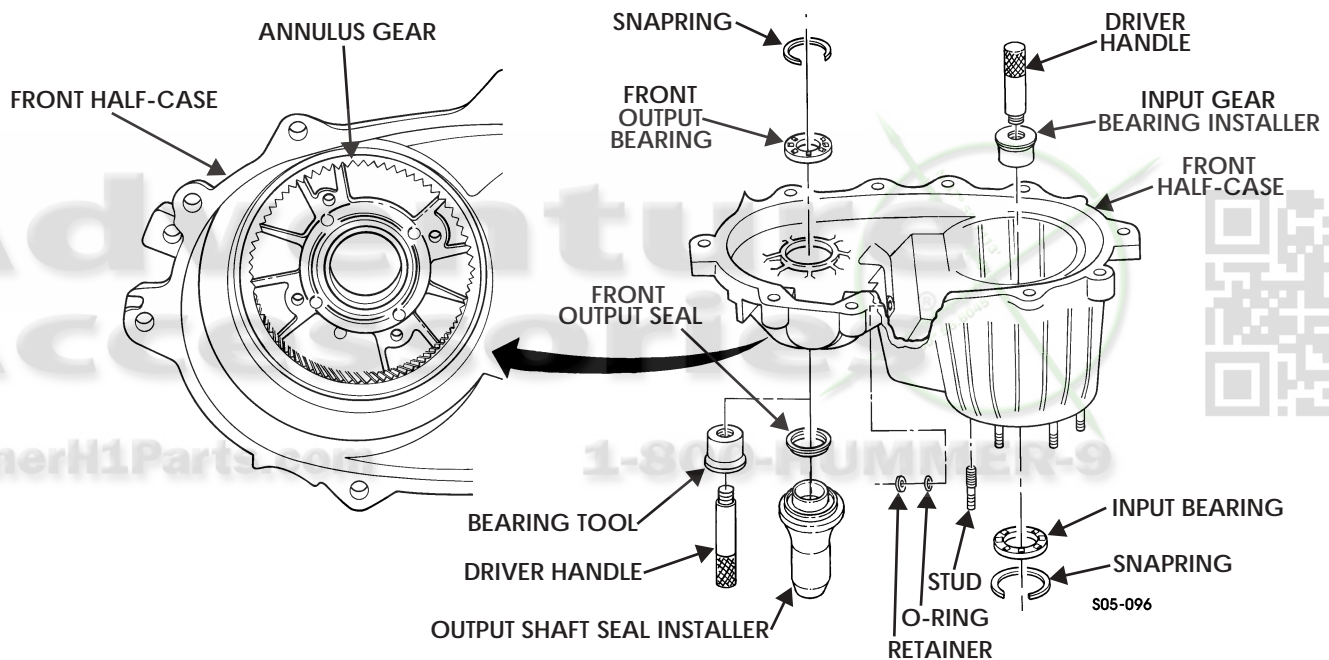

Figure 5-149: Front Seals
1. Inspect front half-case for damaged bearings, front output seal, cracked or broken casting, and damaged studs (Figure 5-149).